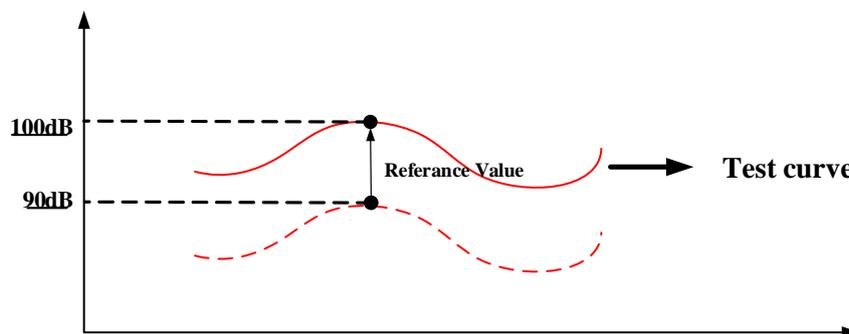

Figure 4.40 Schematic of Floating Data Method
- ✓ The measured curve moves based on the reference frequency point and reference value. If the “Frequency Response Frame Reference Frequency”=1000Hz, “Response Frame Reference Value”=100dB, and the sensitivity at the actual measured curve at 1kHz =90dB, and thus the interface display will translate the curve upwards 10dB, as shown in Figure 4.40, while the curves limits position is fixed.